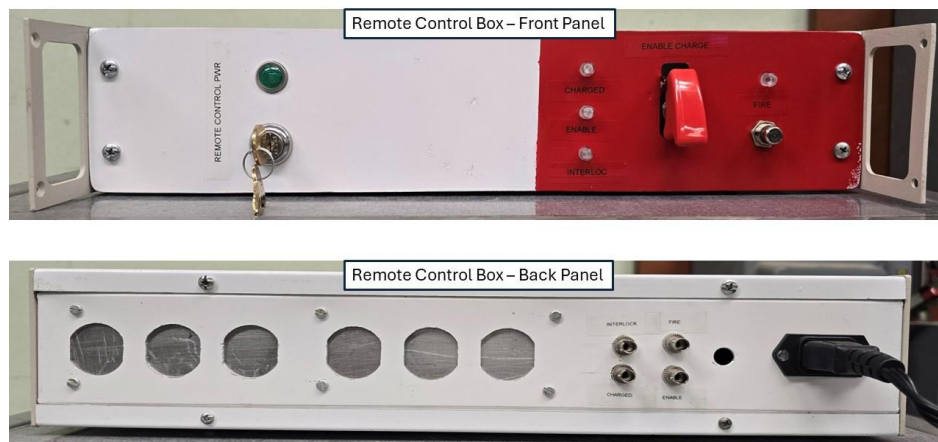

Fig. 5 Remote control box
- 1) Verify the operator has in their possession the keys to the remote control box (shown in Fig. 5) and three-phase manual disconnect switch (locked in the disengaged position).